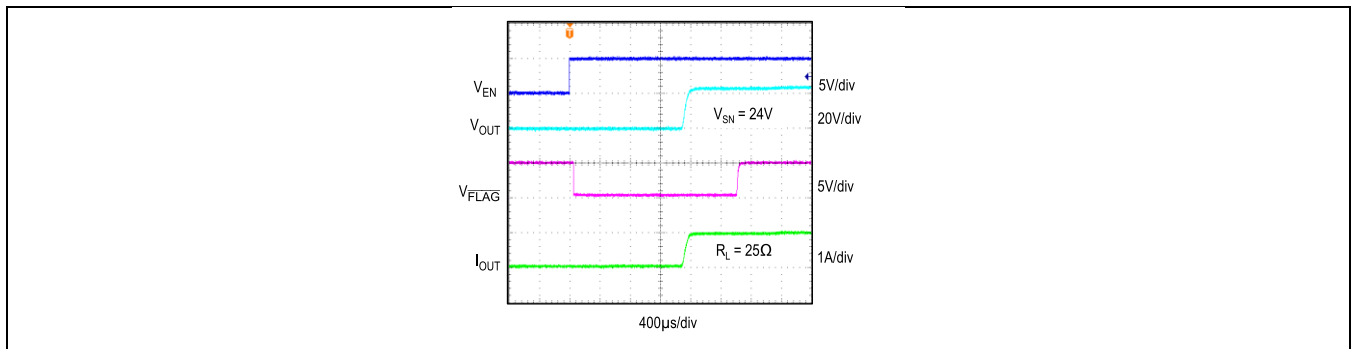
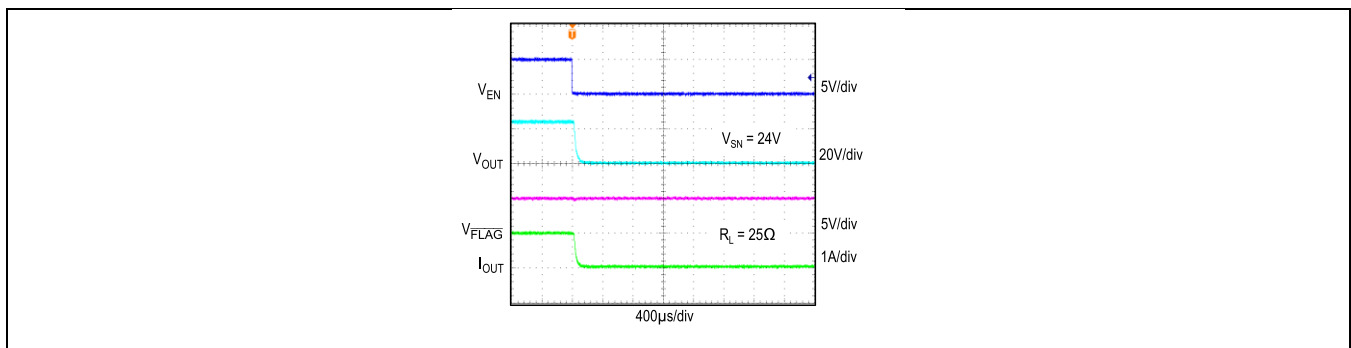

Figure 10. Turn-On Control Through EN Pin
Figure 11. Turn-Off Control Through EN Pin
The MAX17527A can be turned on or off using the enable input pin (EN) to control the power delivery to connected loads. In Latch-Off Mode, the EN pin must be pulled low below 0.4V for at least 30 μ s (typ) to reset the fault condition, and the device resumes operation. The EN pin is internally pulled up to 1.45V to have an always ON operation when it is left open. Figure 10 and Figure 11 show turn-on and turn-off control with EN.